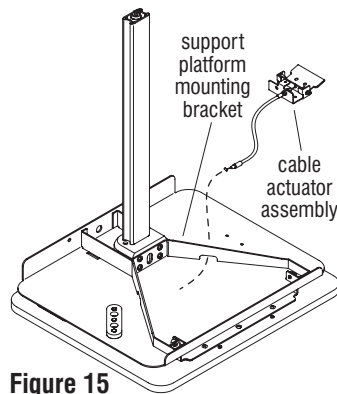

Figure 15
10. Guide the barrel end of the cable into the opening on the support platform mounting bracket, close to the mounting head (Figure 15 & Detail U).